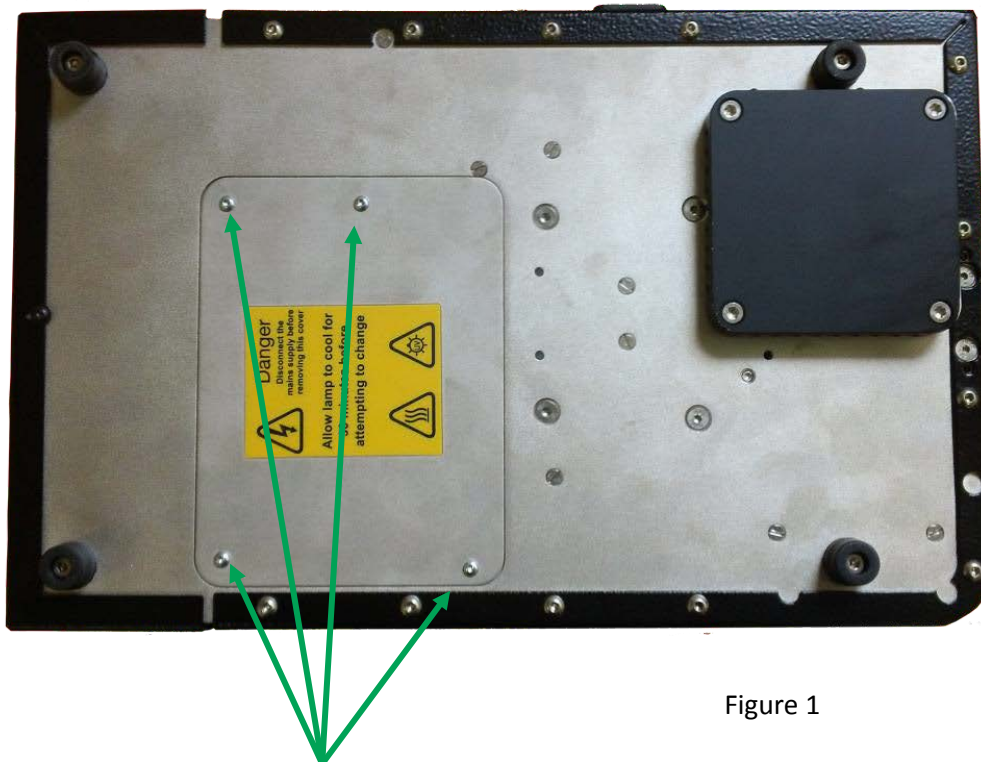

Figure 1
- 2) Unscrew the four Hex screws and remove the panel as indicated in Figure 1 below.